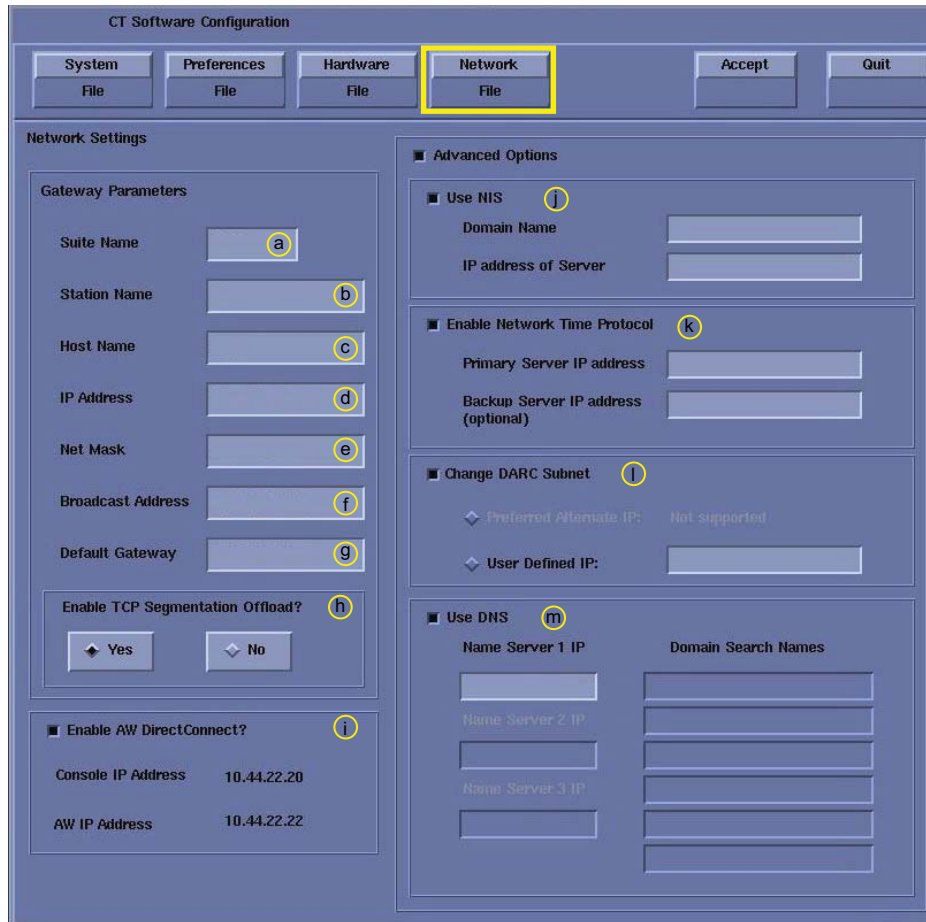

Figure 6-8 Network Settings Screen :
- 10.) Click the NETWORK button to display the Network Settings Screen, as shown in Figure 6-8.